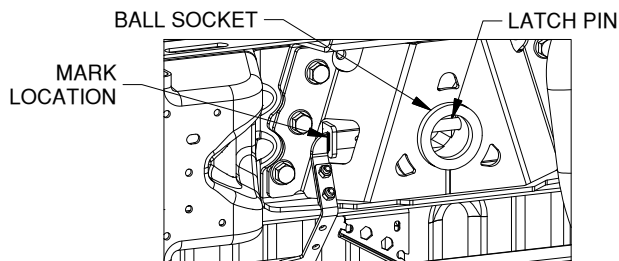

Figure G1: View of center section looking up under the bed.
6. **Check latch pin engagement.** When installed properly, the latch pin mechanism should pass through both sides of the ball socket. With the ball removed, push handle toward the rear of the truck until the handle retracts and the latch pin engages. Visually inspect the ball socket and check to be sure the latch pin has passed completely through the socket. Make a mark on the latching mechanism where indicated in figure G1 to show where the latching mechanism should be when the pin is correctly positioned in the ball socket. Retract the pin, replace the ball, and re-engage the pin. Check the marked location on the latching mechanism. If the mark is in the same location as when the mark was made, then the latch pin has gone completely through the ball socket.